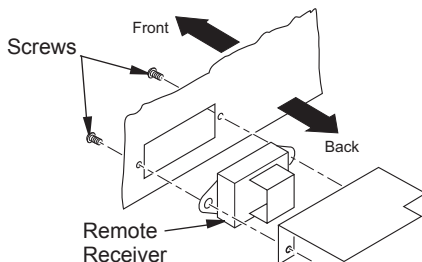

Figure 19 - Installing Remote Receiver
4. Install remote receiver unit onto gas log heater base using Phillips head screws (see Figure 19).